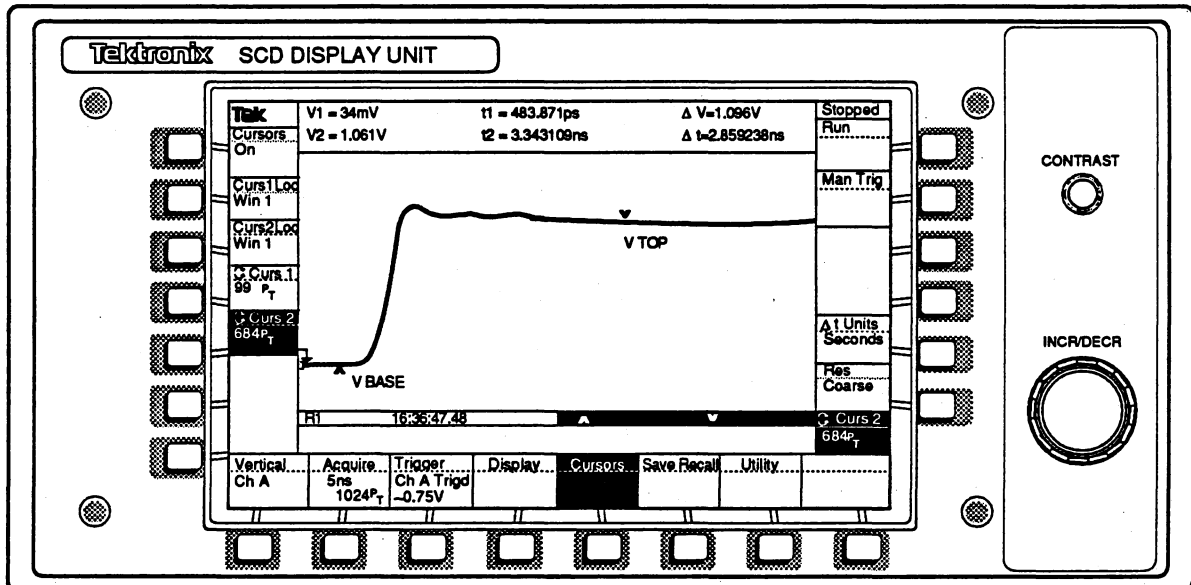

Figure 5-28: Output Adjustment
7. As before, adjust the following for square corner, flat top, aberrations less than +7%, -3%, and less than 12% peak-to-peak overall as shown in Figure 5-28. Do this by adjusting the following components on the Analog board: